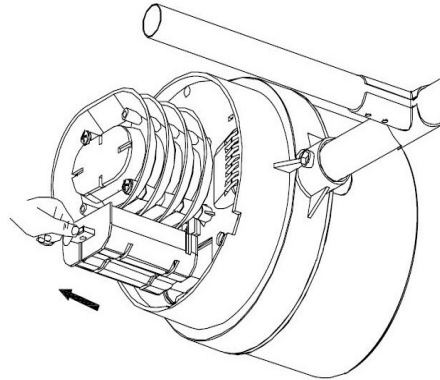

Figure 2
2. Pull out the battery compartment (Figure 2)